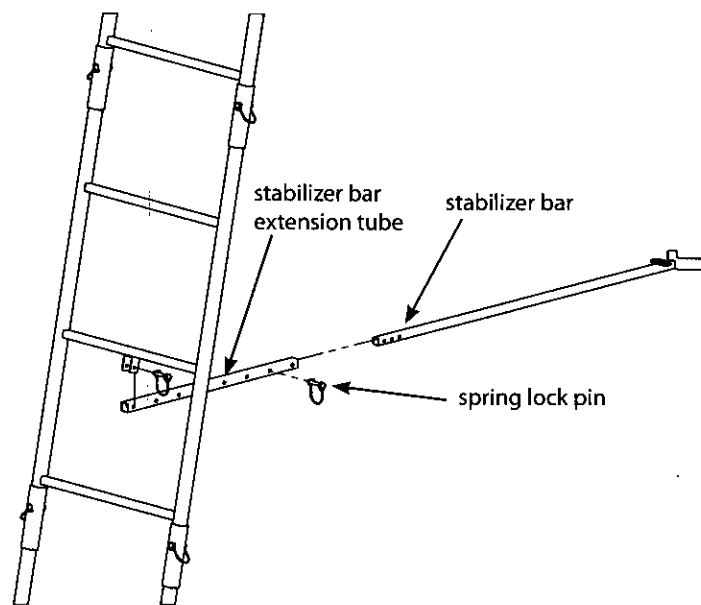

Figure 14
22. a. Attach the stabilizer bar extension tube (1ML23) to the second ladder section mounting bracket using (1) provided spring lock pin. **SEE FIGURE 14.**
b. Slide the stabilizer bar (L17) into the extension tube and attach the two pieces together using (1) provided spring lock pin. Spring lock pin must go through both the extension tube and stabilizer bar at appropriate hole to achieve desired distance from tree. Adjustment in length may be needed when ladder is uprighted later in instructions. **SEE FIGURE 14.**